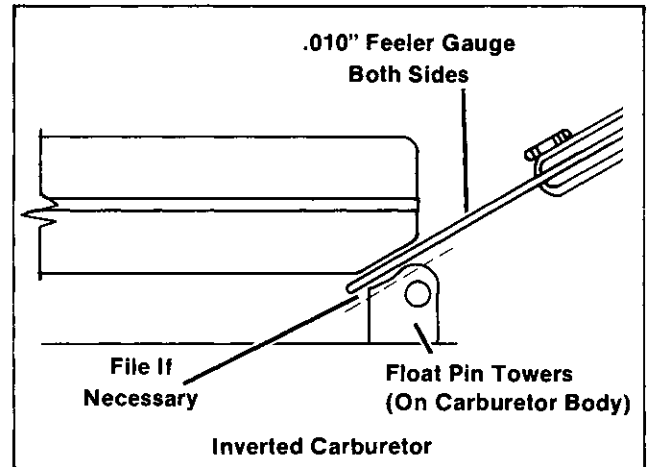

Figure 4-6. Checking Float Clearance
- 4. Check float clearance.** Invert carburetor—check clearance between float and float pin towers with a $.010"$ feeler gauge. If feeler cannot be inserted or if there is interference between the float and towers, file the towers to achieve proper clearance. See Figure 4-6.